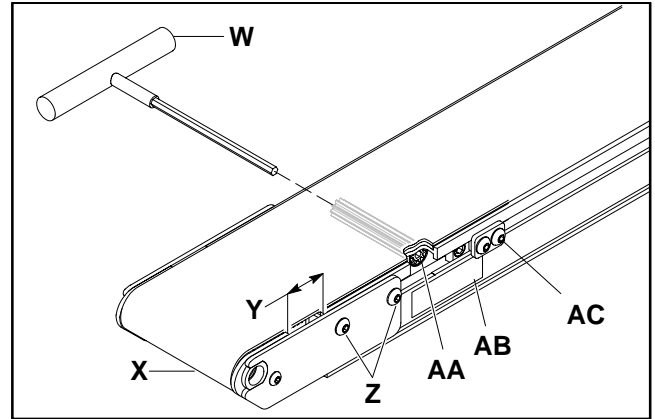
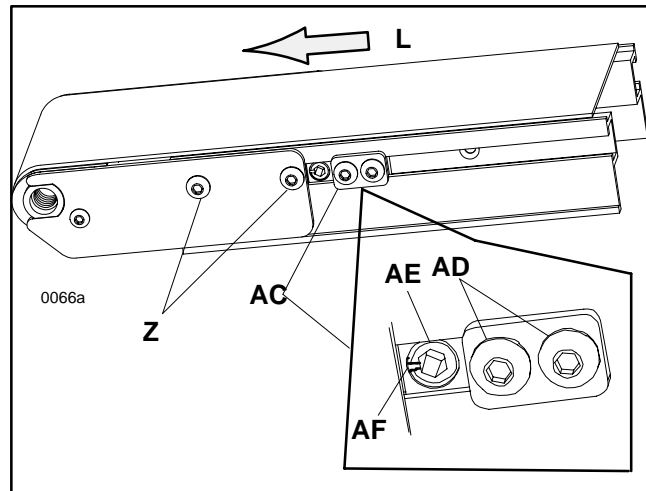

Figure 22
Figure 23
1. Locate the tension end (X of Figure 22) of the conveyor, identified with a label (AB).
9. Position the belt tracking cam against the slide bar while making sure groove is correctly oriented. See Figure 23 on page 14. Then, secure the belt tracking cam assemblies into position on both sides of the conveyor.
Check both ends of the conveyor for proper belt tracking. The belt should track centered between the tail plates on both ends of the conveyor. Conveyor belt tracking should always be adjusted on the discharge end, as determined by the direction of belt travel (L of Figure 23) of conveyor first. Then, check the tracking on the opposite (infeed) end of the conveyor and readjust it, if necessary.
1. Loosen (but do not remove) the two (2) cam clamping plate screws (AD) on both sides of the conveyor discharge.
2. Slide both belt tracking cam assemblies (AC) as far as they can be toward the end of the conveyor.
3. The belt tracking cam (AE) must be set to the low point at the point of contact as illustrated. The slot (AF) in the belt tracking cam should be horizontal and pointing towards the end of the conveyor.
4. Tighten the two (2) cam clamping plate screws (AD), on both sides of the conveyor.
5. **Only loosen the two tail cover plate screws (Z of Figure 23) on the side of the conveyor that the belt is tracking toward.**
6. With the conveyor running, use the 5 mm hex key wrench (W of Figure 22) to slowly rotate the belt tracking cam (AE of Figure 23). Rotate the cam in small increments, in either direction to cause the belt to track away from the conveyor side, until the belt tracks in the center of the conveyor. Always allow the conveyor belt to make several revolutions between adjustments.